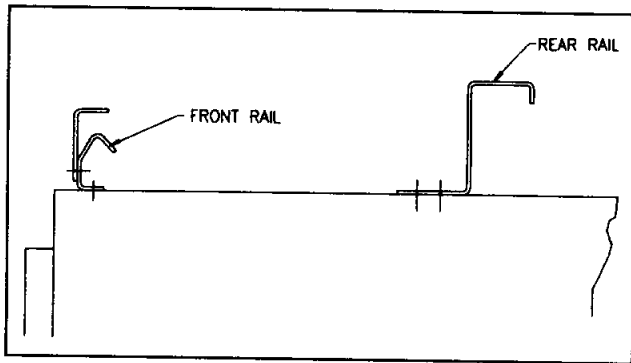
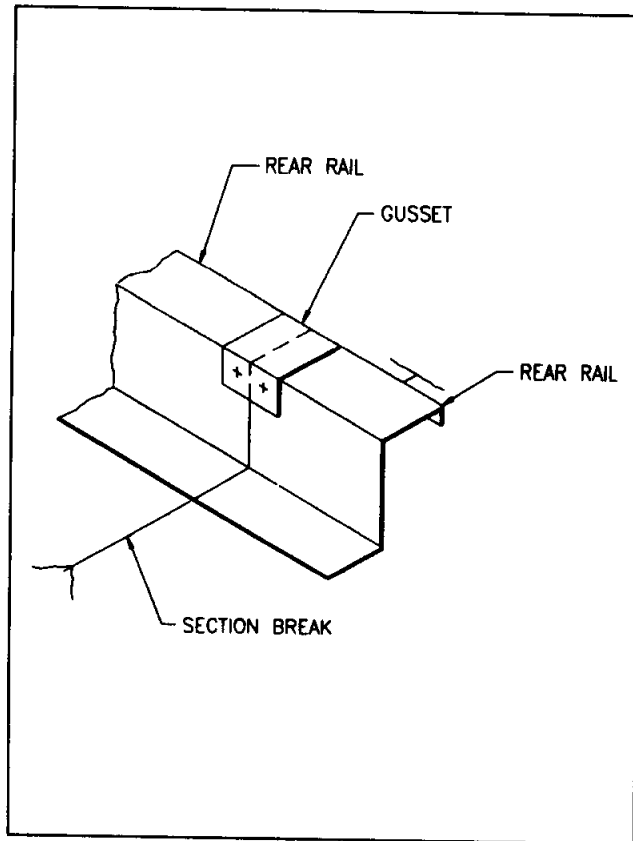
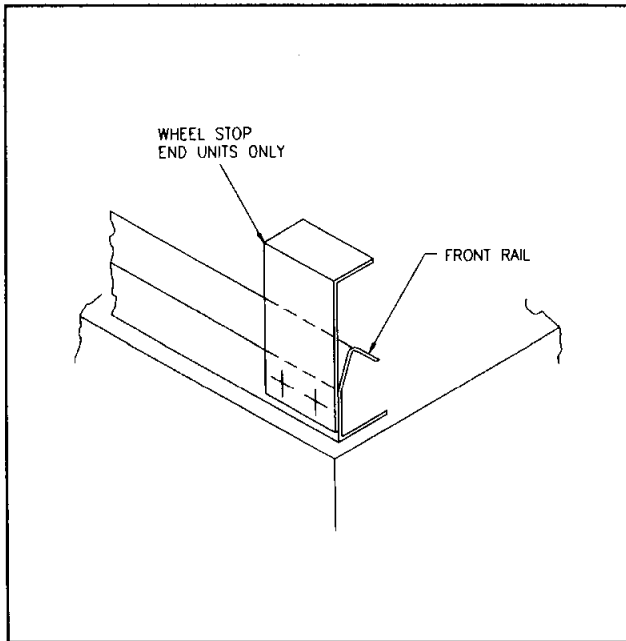

Fig. 32 *Replace Shipping Angles With Front Rails*
Fig. 33 *Gusset Placement - Rear Rail*
Fig. 34 *Wheel Stops In Place*
2. Replace the front shipping angle with the front wheel rails running from unit to unit (Figure 32). Make sure the rails are aligned between adjacent units and tighten the bolts securely. Check to make sure that wheel stops are positioned on the end unit rails (Figure 34).
3. Install rear rails utilizing hardware provided in roof-sheet (Figure 32). Where rear rail is broken into multiple sections, splice together with gussets provided (Figure 33).